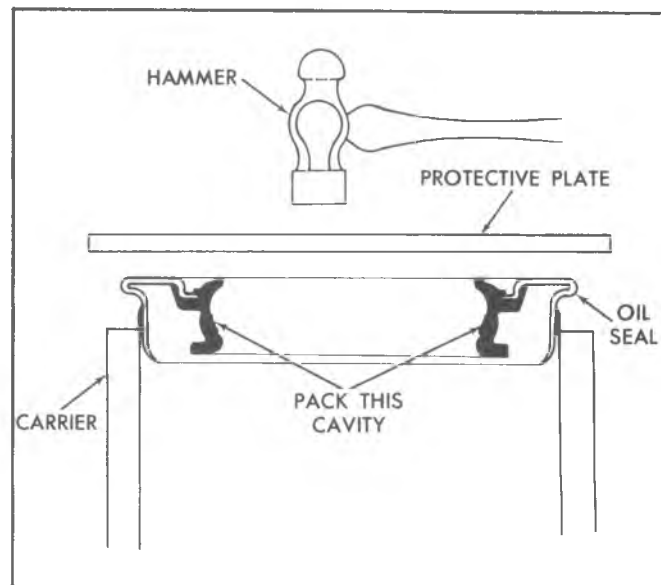

Fig. 22A—Installing Pinion Oil Seal
2. Place a new pinion oil seal into position in carrier bore. Tap lightly with a protective plate and a hammer until seal flange seats against carrier, as shown in figure 22A.